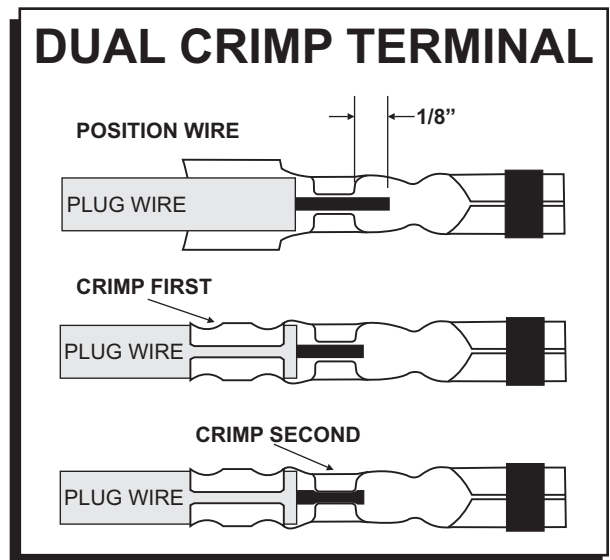

Figure 8 Crimping a Dual Crimp Terminal
1. After stripping the sleeve, position the wire in the terminal so the insulation protrudes about 1/8" beyond the insulation crimp tabs and the conductor extends about 1/8" past the conductor crimp tabs (Figure 8).